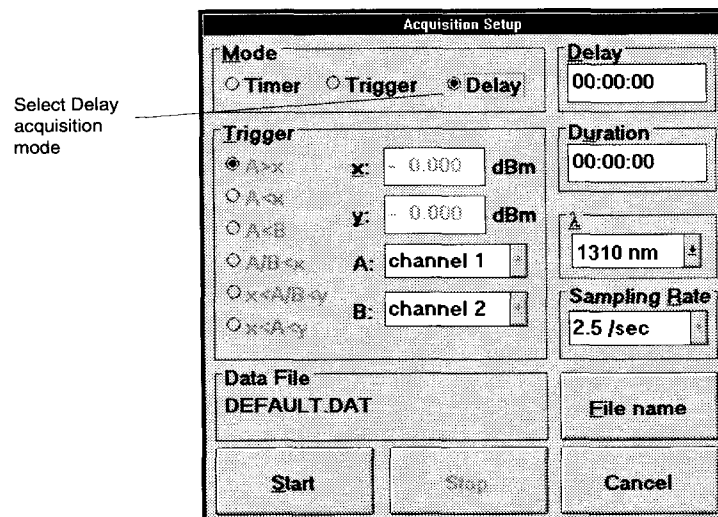

Figure 5-24. Selecting Delay Trigger
3. Click on the **Delay** radio button, as shown in Figure 5-24.